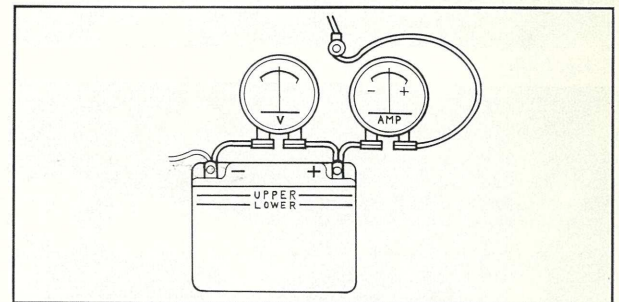

Fig. 3-13 Checking charging current and voltage
- 3) Disconnect the battery cable from the $\oplus$ terminal of the battery, and connect it to the $\oplus$ side of ammeter. Then, connect the $\ominus$ side of the ammeter to the $\oplus$ terminal of battery. Next, connect the $\ominus$ side of voltmeter to the $\oplus$ terminal of battery and consequently $\oplus$ side to the $\ominus$ terminal as shown in Fig. 3-13.